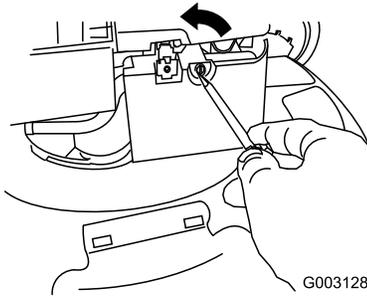

Figure 34
2. Use a screw driver to open the air filter cover (Figure 34).